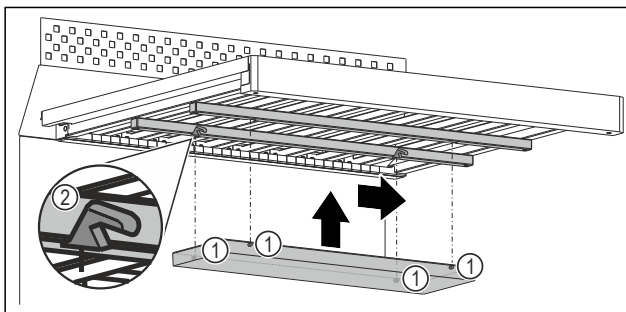

Fig. 83 Example illustration
- ▶ Insert each peg Fig. 83 (1) in the corresponding recess Fig. 83 (2) on the battens below the wooden grating.